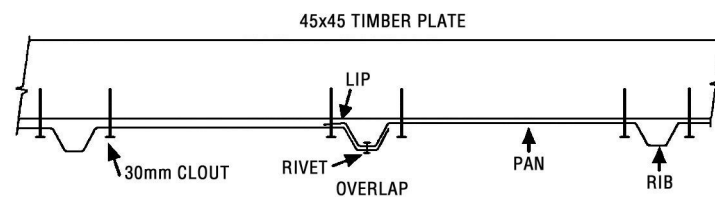

fig. 1
When fitting Gable End Sheets ensure they overlap correctly (**fig 1**).
Step 2: Back Wall: Position the first Wall Sheet with the LIP on the right hand side. Ensuring the LIP is flush with the side of the corner Stud and the top of the Wall Sheet is flush with the top of the Top Plate, tack in place. Position the next Wall Sheet with the LIP on the right hand side. Overlap as shown in **fig 1**. Ensuring Wall Sheet is flush with top of Top Plate, tack in place.
- Step 2:** Where the Clear Roof Panel is to be positioned, nail a 45x45mm Bevelled Edge Support on each side of the Ridge Beam. (*fig. 1*)